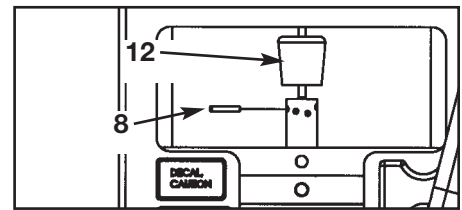

Figure 21
- F. Slide rubber boot (#12) onto cable end. See Figure 21.
- G. Insert cable end into top weight and align cable fitting opening with opening in top weight for proper cable tension as shown in Figure 21. See the Owner's Manual for proper cable adjustment.